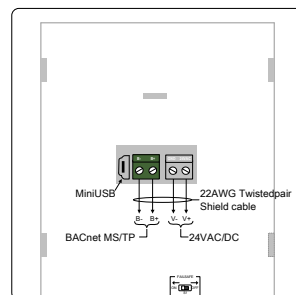

Fig. 2 NVT35U Port
- Setup, upload firmware, and upload graphic display by using the BACsoft software and connect PC to NVT35U with USB2.0 to Mini USB cable (see Fig. 2).